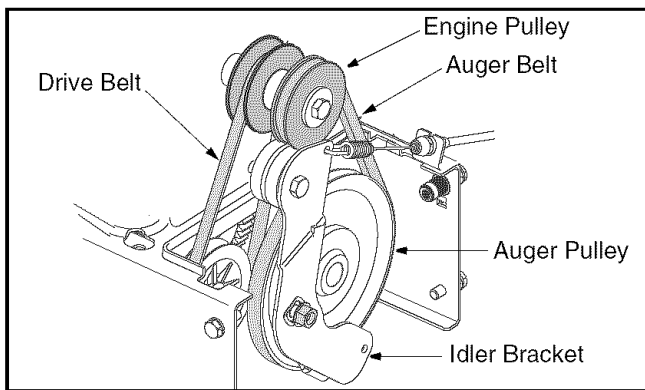

Figure 12
1. Slip the front auger belt off the engine pulley pushing it down between the idler bracket and the engine pulley. See Figure 12 .
5. Place the new drive belt into the groove on the engine pulley. See Figure 12 .